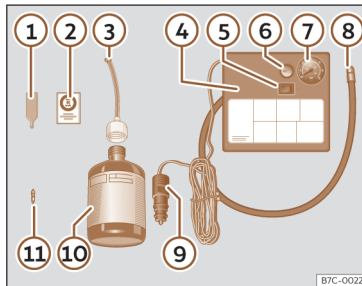

Fig. 232 Standard display: contents of the anti-puncture kit.
The anti-puncture kit is located underneath the floor covering in the luggage compartment. Includes the following components >>> **Fig. 232:**
- Unscrew the tyre valve cap and insert. Use the device >>> **Fig. 232** ① to remove the valve cap. Place it on a clean surface.
- Shake the tyre sealant bottle vigorously >>> **Fig. 232** ⑩.
- Screw the tyre inflation hose >>> **Fig. 232** ③ into the tyre sealant bottle. The bottle's seal will break automatically.
- Remove the filler cap >>> Fig. 232 ③ and screw the open end of the tube into the tyre valve.
- Replace the howitzer with the device >>> Fig. 232 ① onto the tyre valve.
- Screw the tyre inflation tube of the compressor >>> Fig. 232 ⑧ on the tyre valve.
- Check that the air evacuation screw is closed >>> Fig. 232 ⑥.
- Attach the connector >>> Fig. 232 ⑨ to the vehicle's 12 volt power outlet >>> page 238.
- Switch on the air compressor with ON/OFF switch >>> Fig. 232 ⑤.
- Attach the sticker >>> Fig. 232 ② to the instrument panel display, within the driver's field of vision.
Screw in the inflator tube >>> Fig. 232 ⑧ again and check the pressure on the gauge ⑦.